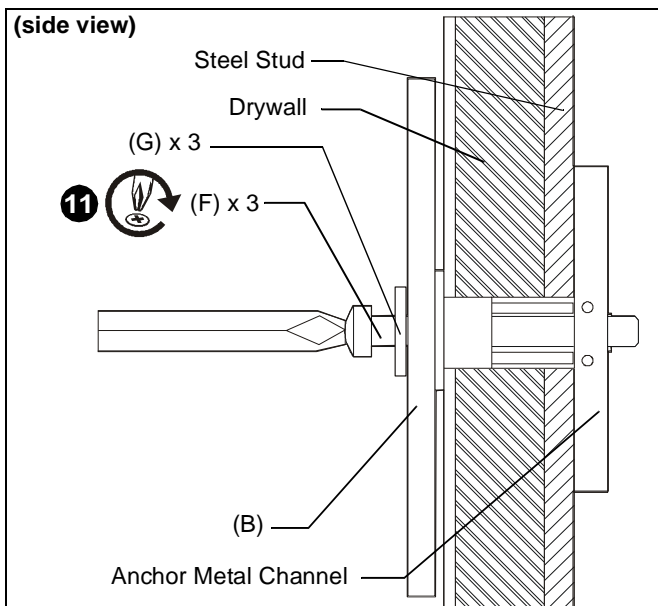

Figure 9
10. Place wall bracket (B) over anchors and align mounting holes in display mount with holes in anchors. (See Figure 9)
11. Insert 1/4-20 x 1-3/4" Phillips pan head screws (F) through 1/4" washer (G), corresponding mounting hole on wall bracket and into anchor (H) and tighten until flush against mount. DO NOT overtighten! (See Figure 9)